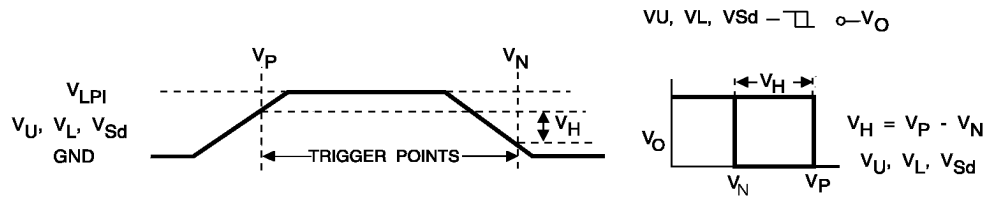

FIGURE 7. HYSTERESIS DEFINITION AND CHARACTERISTICS
The PWR-82331/333 uses Schmitt triggered digital inputs (with hysteresis) to ensure high-noise immunity. The trigger switches at different points for positive and negative going signals. Hysteresis voltage (V_H) is the difference between the positive going voltage (V_P) and the negative going voltage (V_N) (see FIGURE 7). The digital inputs have programmable logic levels, which allows the hybrid to be used with different types of commutation logic with an input voltage range of +5 V to +15 V, such as TTL or CMOS logic. The PWR-82331/333 internal power supply generates a +15 Vdc (V_{LPO}) on pin 15. This output can only be used to power the internal digital circuitry within the hybrid. **Do not use this +15 V output to power any circuitry external to the hybrid.** Pin 16 is the logic power input (V_{LPI}) for the digital circuitry inside the hybrid. **A 0.01 μ F, +50 V ceramic capacitor must be placed between this pin (16) and GND as close to the hybrid as possible.** When using +15 V control circuitry, the logic power input (pin 16) can be connected directly to logic power output (pin 15) of the hybrid. There is no need for additional external power supply.